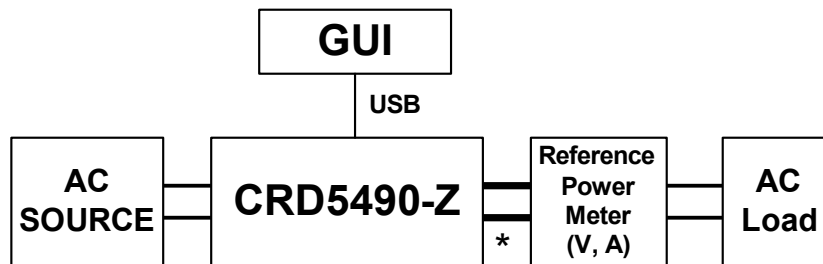

Figure 16. Gain Calibration Configuration
1. Attach an AC reference meter as configured in Figure 16. It is important to use short and large gauge wires to attach the reference power meter to reduce error.